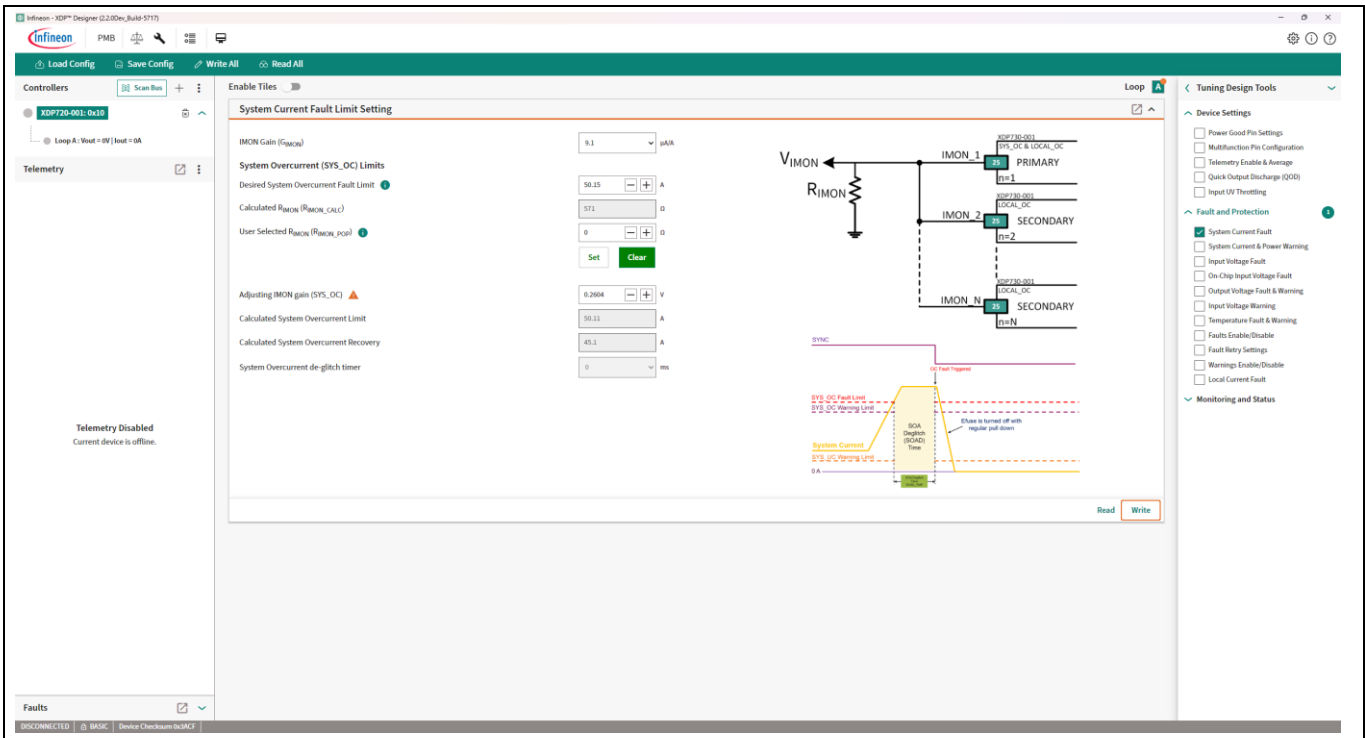

Figure 3 XDP™ Designer GUI
- XDP™ Designer graphical user interface (GUI) shown in Figure 3